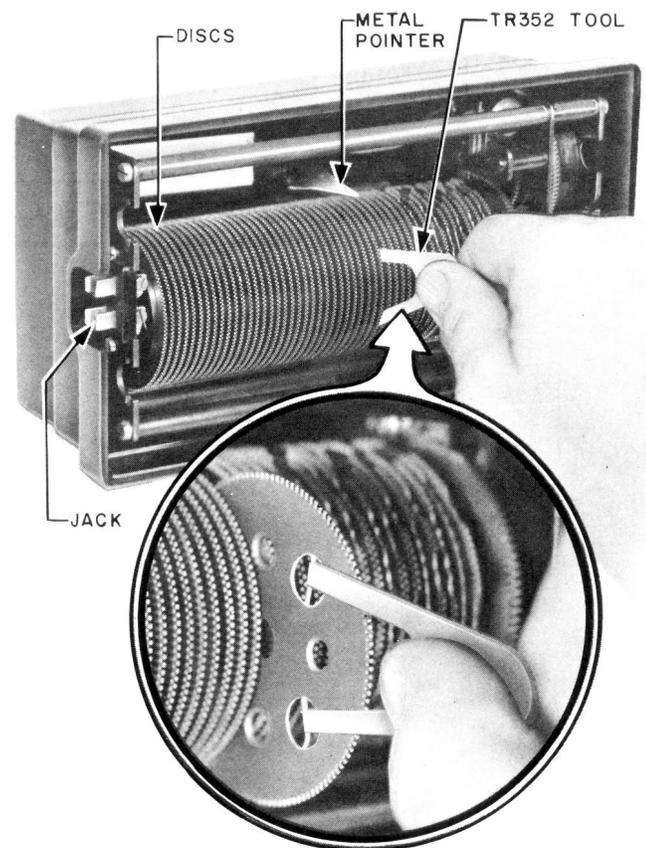

Fig. 4 - Removing Disc
- The metal pointer indicates disc to be removed (see Fig. 4).